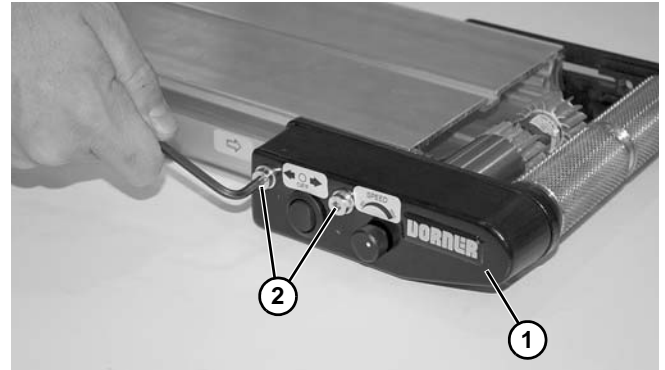

**Figure 127**
4. Using an arbor press or similar device, press bearing onto pulley shaft (**Figure 127**).